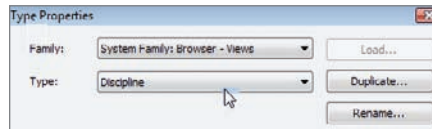

FIGURE 8.70 Changing Type to Discipline
6. Change Type to Discipline, as shown in Figure 8.70, and then click OK.